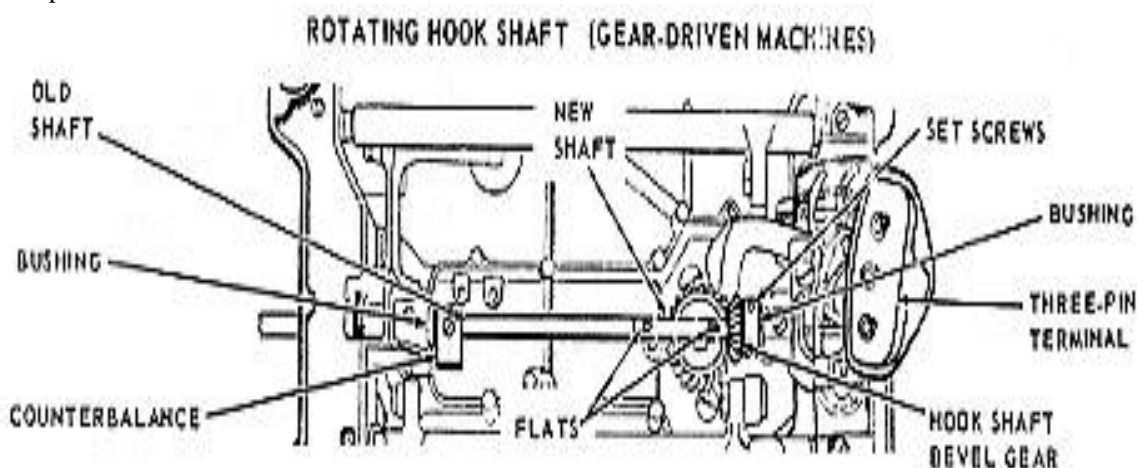

Fig. 40. Removing Hook Shaft
3. Loosen counterbalance set screw and hook shaft bevel gear set screws. (See Fig. 40).
4. Remove screw holding the three-pin terminal, Fig. 40, and carefully push aside the wiring to expose right end of hook shaft.
5. Using new shaft as a tool, push old shaft out through left end of machine. Make certain that the inserted end of the new shaft presents the flats, Fig. 40, on which the rotary hook set screw and counterbalance set screw, respectively, are to be tightened